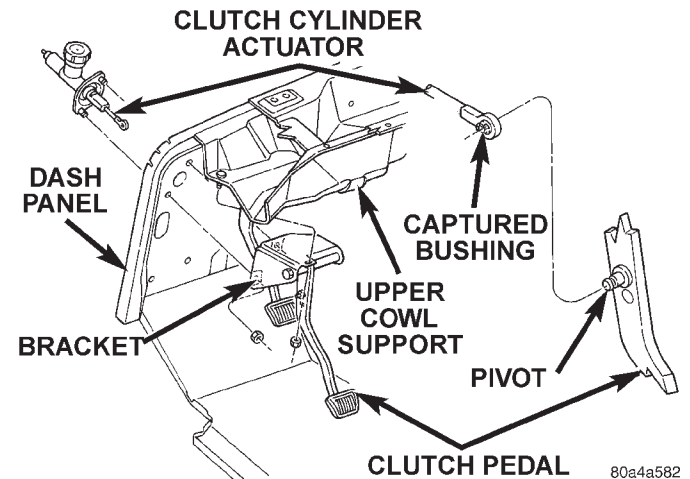
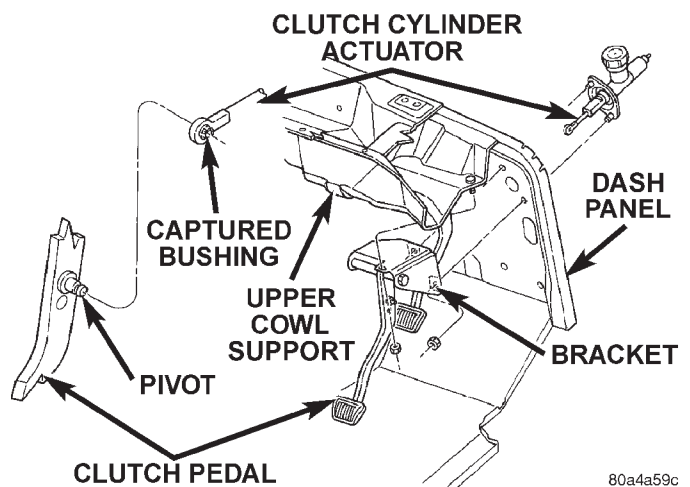

Fig. 11 Clutch Pedal Mounting
Fig. 12 Clutch Pedal Mounting—Right Hand Drive
(1) Remove steering column lower cover and knee blocker for access. Refer to Group 8E, Instrument Panel for procedure.
(2) Disconnect clutch pedal position switch wires.
(3) Disengage captured bushing lock tabs attaching clutch master cylinder actuator to pedal pivot (Fig. 11) or (Fig. 12).
(4) Remove nuts attaching pedal and bracket to dash panel and upper cowl support (Fig. 11) or (Fig. 12).
(5) Separate pedal assembly from vehicle.
(1) Place clutch pedal and bracket over studs on dash panel and cowl support (Fig. 11) or (Fig. 12).
(2) Install nuts to attach pedal and bracket to dash panel and upper cowl support (Fig. 11) or (Fig. 12). Tighten nuts to 39 N·m (29 ft. lbs.) torque
(3) Engage captured bushing and actuator on brake pedal pivot (Fig. 11) or (Fig. 12).
(4) Connect clutch pedal position switch wires.